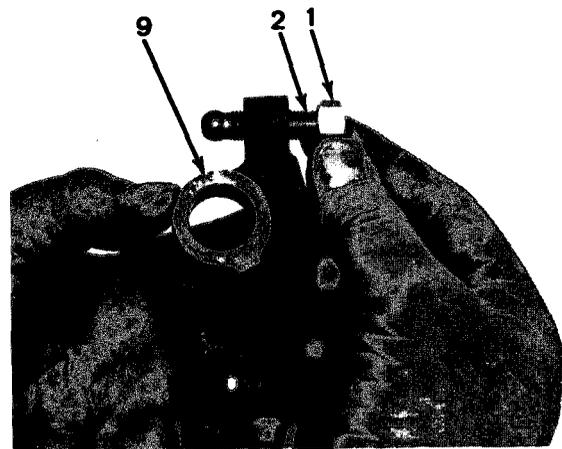

Figure 6-4
2. If inspection shows adjusting nuts (1) and rocker adjusting screws (2) are defective, remove and discard from intake and exhaust rocker levers (9, Figure 6-4).